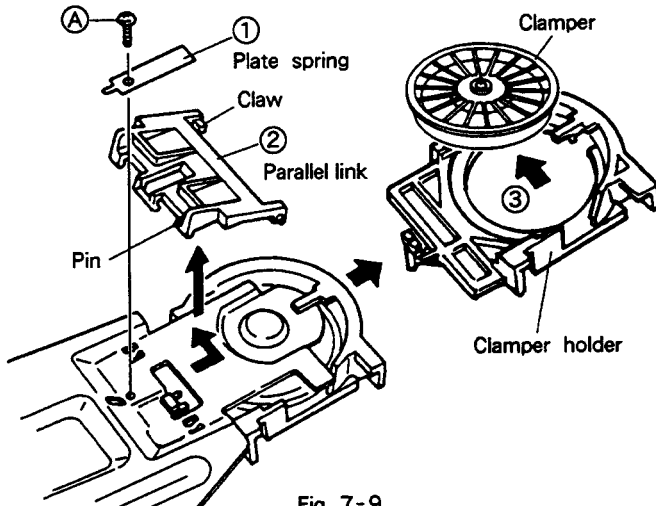

Fig. 7-9
7.5 REMOVING THE CLAMPER (Fig. 7-9)
- ① Remove the plate spring by unscrewing screw (A).
- ② Remove the parallel link by sliding it in the direction of the arrow. (Be careful not to damage the claw located on one side of the link.)
- ③ The clamber can be removed by sliding the clamber holder in the direction of the arrow.